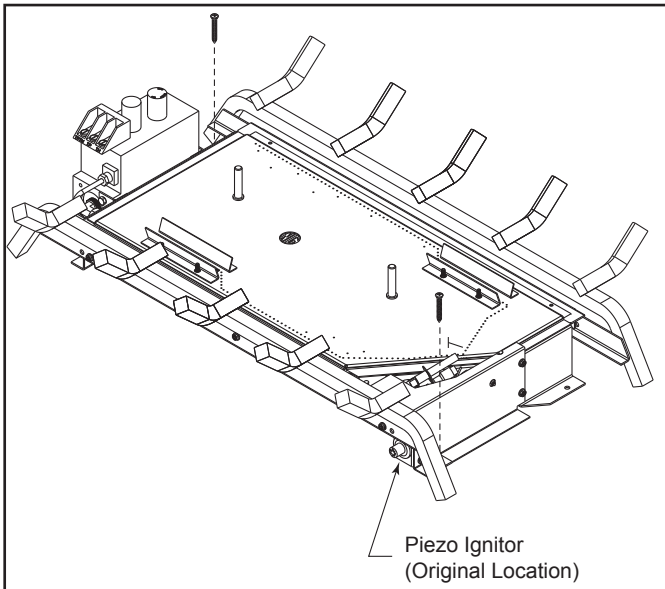

Figure 3.9 - Secure Burner
A damper stop must be provided with the unit. Contact your dealer to obtain one. The damper stop must be installed as shown in *Figure 3.9* to prevent full closure of the fireplace damper blade and provide a minimum 29 square inch flue opening.
2. Anchor holes are located on the right and left sides of the unit. After centering the grate correctly, mark the hole locations on the fireplace/firebox floor. Drill two (2) 5/32" diameter holes approximately 1¼" deep.
3. Anchor the unit to the fireplace/firebox floor using the screws provided. *Figure 3.9*